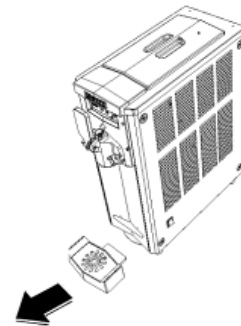

Fig. 55
- Remove the drip tray by pulling it gently outwards (Fig. 55) and wash it thoroughly with hot water and washing-up liquid.